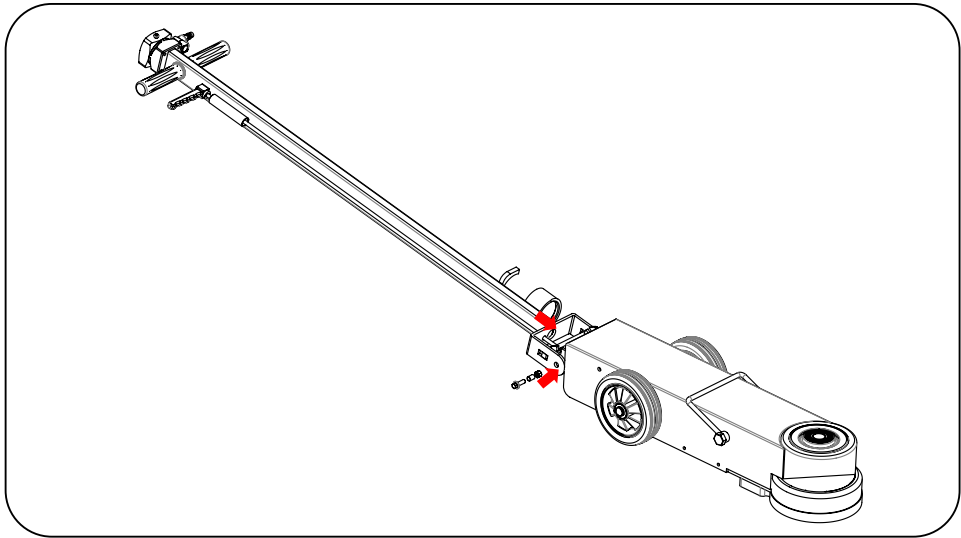

Fig. 03
- To assemble the handle, see figure 03.